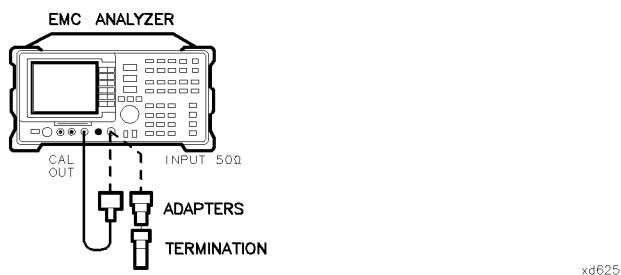

Figure 2-64. Displayed Average Noise Level Test Setup, HP 8595EM
1. Connect a cable from the CAL OUT to the INPUT 50 Ω of the EMC analyzer as shown in Figure 2-64.